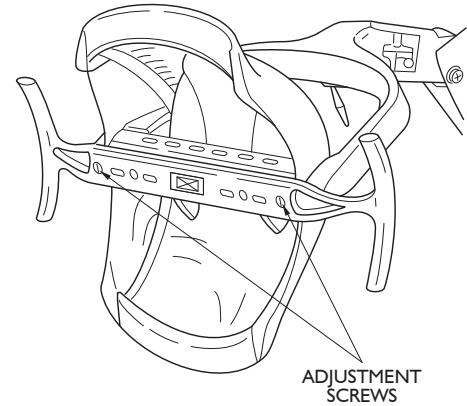
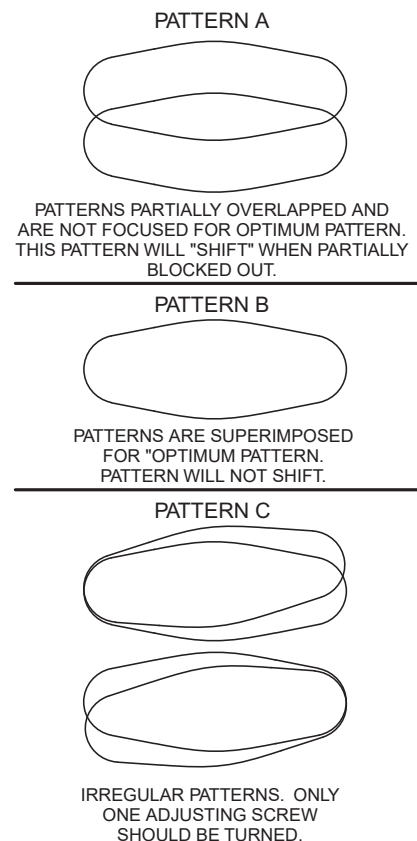

Figure 4
Figure 5
13. With plastic shield removed the holes on either side of Pelton & Crane nameplate allow access to two focusing screws (Figure 4). Using a straight screwdriver turn both screws clockwise equally until there are two separate patterns, as shown in Pattern A (Figure 5).
14. Turn each screw counterclockwise equally, one turn at a time, until the patterns are superimposed, as shown in pattern B (Figure 5).
16. If patterns are irregular, as shown in pattern C (Figure 5), turn only one screw until patterns are superimposed.